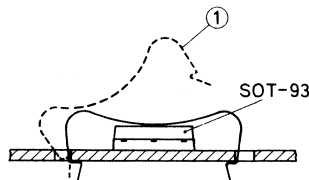

Fig. 1b Mounting.
2. Push the short end of the clip into the narrow slot in the heatsink with the clip at an angle of 10° to 20° to the vertical (see Fig. 1b).